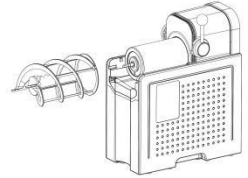

Fig.2
3. Install the auger by sliding it over the evaporator and rotating until it fits into place onto the pin (Fig.2).